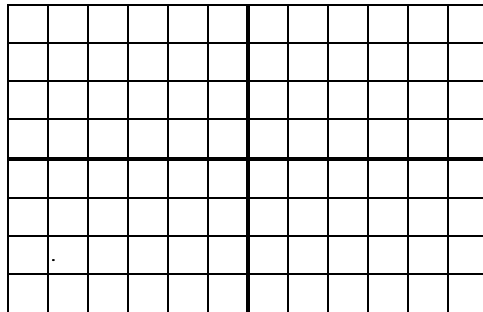

Figure 5.2a
2. On the graphs of figure 5.2a and 5.2b sketch the input voltage V_{in} and the output voltage V_{out} respectively. Also note the vertical and horizontal sensitivity.